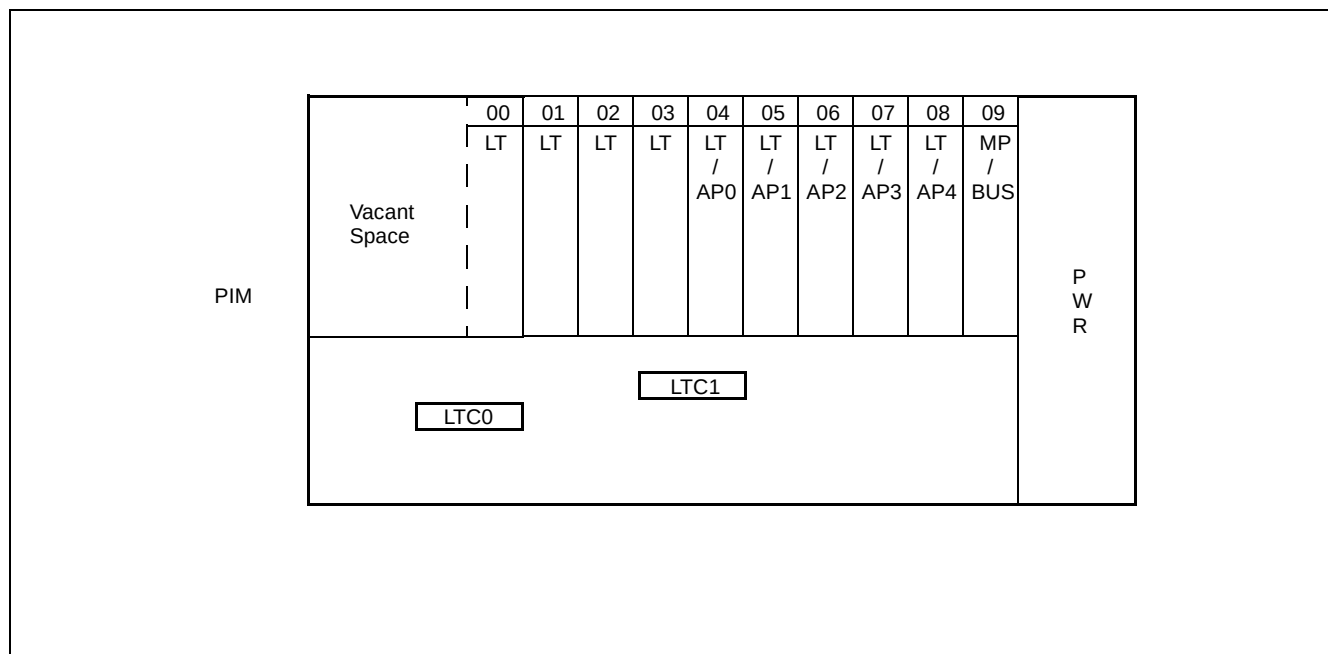

Figure 007-1 Card Slots and LTC Connectors Location
- (1) Connect the cables to the MDF referring to Figure 007-1 and Table 007-1.